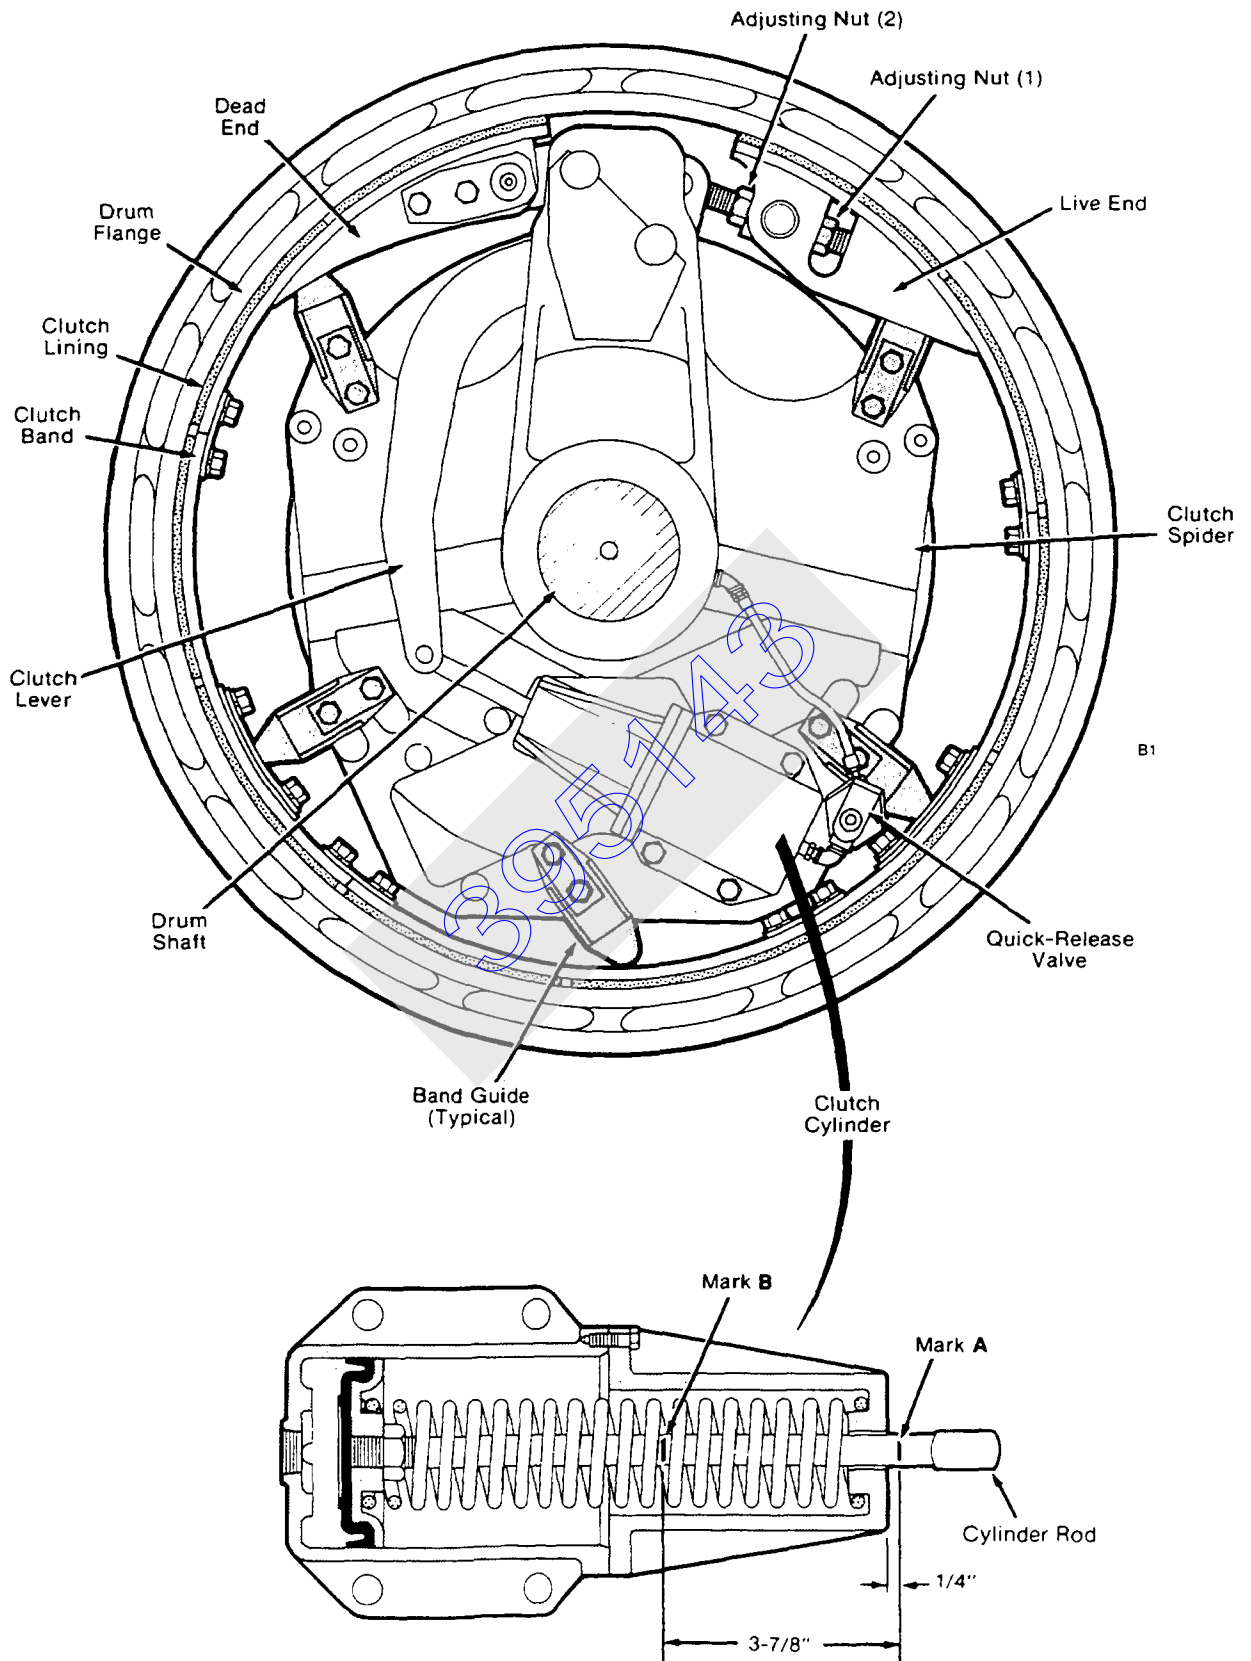

Figure 3. Drum Clutch Assembly
4. RELEASE the clutch and check that Mark A, Figure 3 is 1/4 inch or more (not less) from the end of the cylinder. If not, adjust the band guides for proper "drum-to-lining clearance" (approximately 1/32 inch).
5. FULLY APPLY the clutch and check that Mark B, Figure 3 is flush with the end of the cylinder. If not, adjust the clutch for "lining wear." Mark B will move away from the cylinder as the lining wears.
2. FULLY APPLY clutch. If Mark B, Figure 3 is not flush with the end of the cylinder, proceed as follows:
- b) Loosen adjusting nut (1, Figure 3) several turns.
- c) Tighten adjusting nut (2, Figure 3) one to two flats to move Mark B toward the cylinder.
- f) Tighten adjusting nut (1) against the spacer to hold the adjustment.
6. **RELEASE** clutch. Mark A, Figure 3 should be 1/4 inch or more from the end of the cylinder. This dimension will vary depending on the amount of clearance between the lining and the drum flange, but the dimension **must not be less than 1/4 inch**.
IMPORTANT Cylinder piston can bottom out, resulting in packing cup damage and improper operation of clutch if Mark A, Figure 3 is less than 1/4 inch from end of cylinder